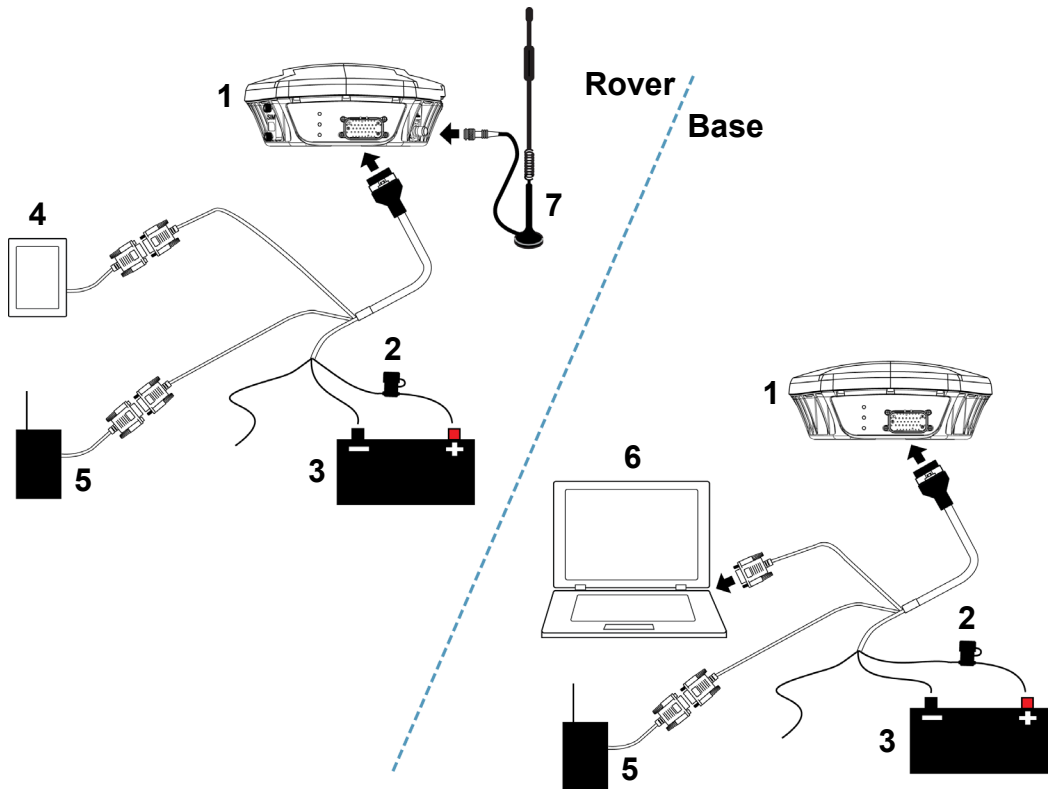

Figure 15: Basic Differential Setup
Before operating the SMART-MR10 or SMART-MR15 for the first time, ensure that you have followed the installation instructions in *Chapter 2 Installation* starting on *page 26*. The following instructions are based on a COM port configuration such as that shown in *Figure 15* on *page 49*. It is assumed that a personal computer (PC), or laptop, is used during initial operation and testing for greater ease and versatility.
RTK or DGPS corrections can be transmitted from a base station to a rover station to improve position accuracy. The base station is the GNSS receiver, which is acting as the stationary reference. It has a known position and transmits correction messages to the rover station. The rover station is a GNSS receiver which can be sent correction messages from a base station to calculate differential GNSS positions. The SMART-MR10/15 can be used as base receivers to transmit RTK or DGPS corrections, or as rovers to receive the same corrections. An example of a differential setup is given in *Figure 15* on *page 49*.